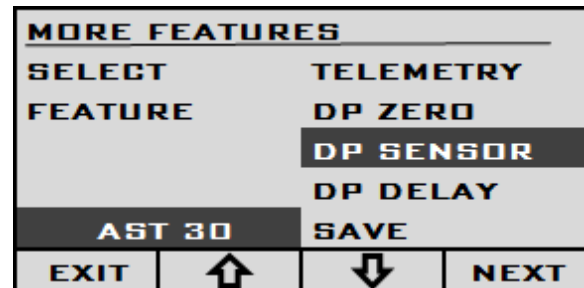

Figure 6.2.2: SET SENSOR option.
4) Use the UP/DOWN arrow keys to switch between the LEGACY (TANK-TEL/CYL-TEL) and AST (TANK-TEL/CYL-TEL III) DP sensor. (Figure 6.2.2)